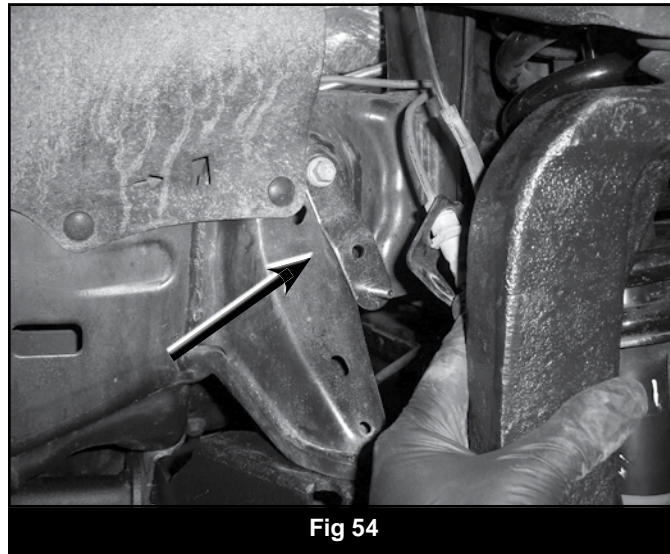

Fig 54
75. Locate the new brake line relocation brackets (01655). Attach the brackets to the original frame mount with the original bolt. The stud on the bracket will point out and the bracket will angle in toward the strut about 20-30 degrees from vertical (Fig 54). Torque bolt to 10 ft-lbs.